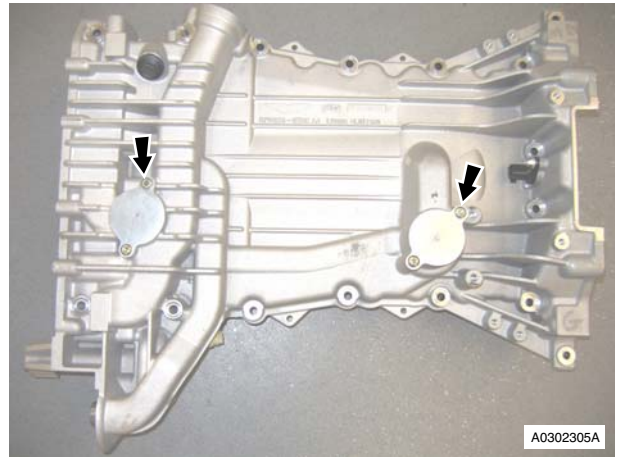

Figure 4
- Remove Torx screws (x4) that attach the oil filter plates (x2) to sump. Remove plates (refer to Figure 4).